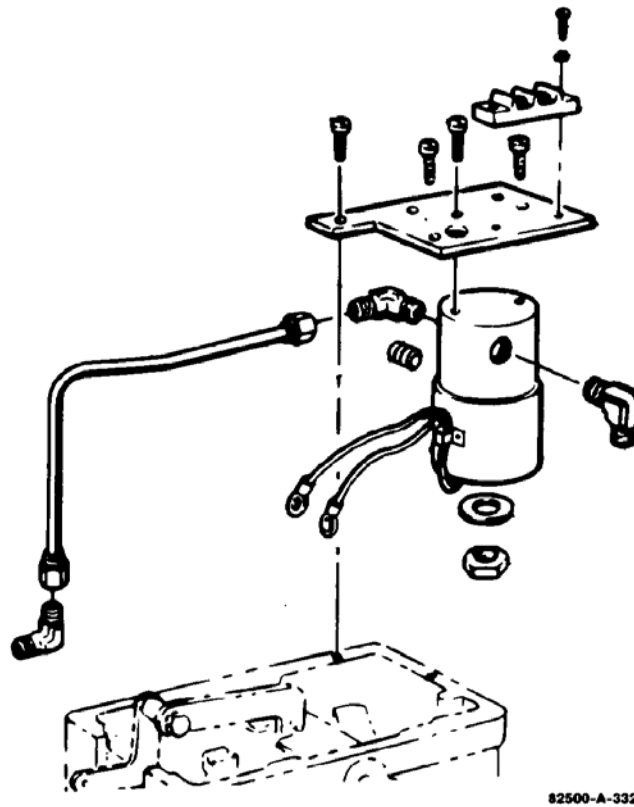

Figure 1-4. Shutdown Solenoid
**Shutdown Solenoid (Figure 1-4)**